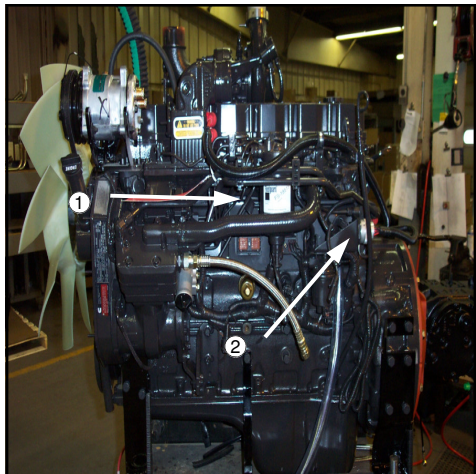

FIG 8.25
Filter (WATER SEPARATOR) - (fig. 8.25, item 1) Drain water and sediment from the separator daily. Replace every 500 hours or once a year, whichever comes first.
IN-LINE STRAINER - (fig. 8.25, item 2) Note direction of fuel flow arrow when replacing.